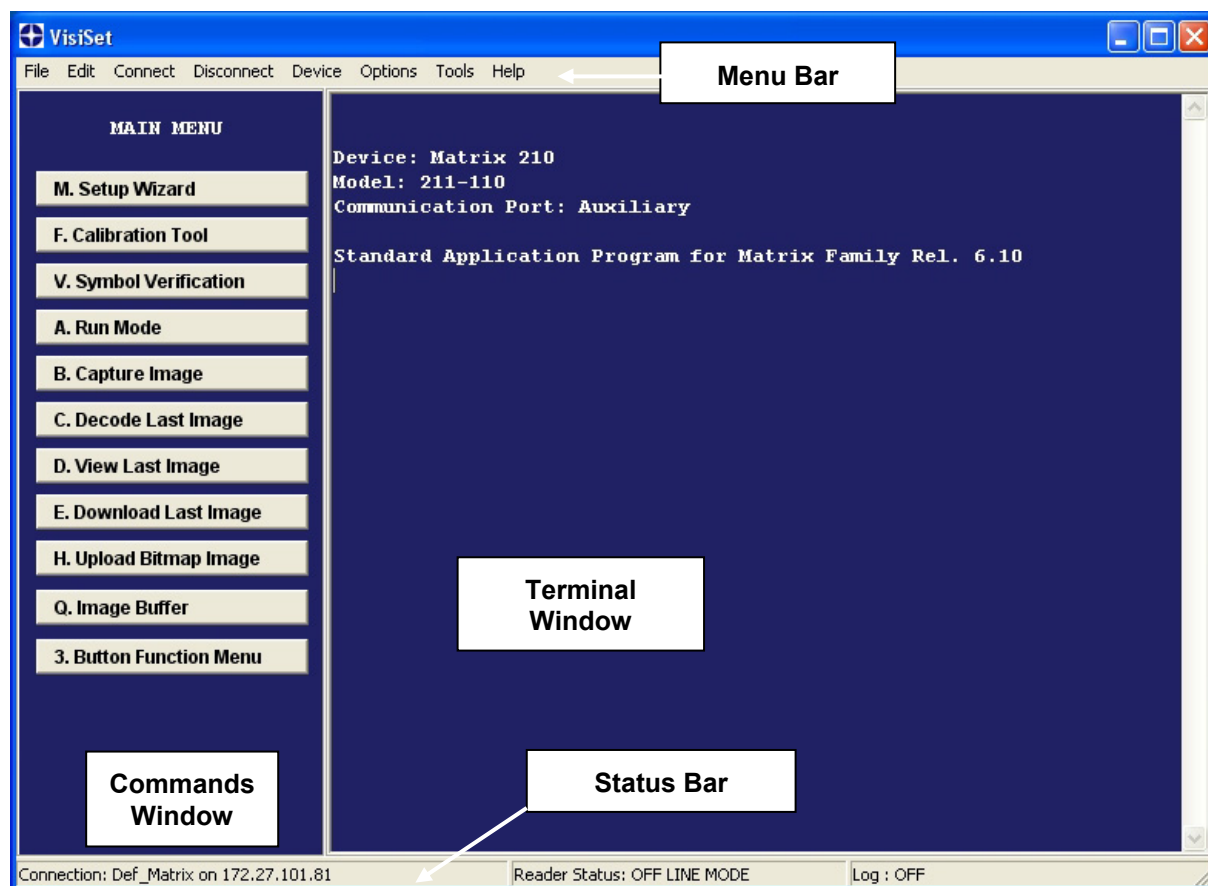

Figure 107 - Main Window
Upon connection, Matrix 210™ exits Run Mode and displays the Main Menu on VisiSet™ with all the commands necessary to monitor your reader's performance. You can select these commands using the mouse or by pressing the key corresponding to the letter shown on the button. See Figure 107.
The **Options** item from the VisiSet™ menu (see Figure 107) presents a window allowing you to configure:
6. Close the Parameter Setup window and press **Disconnect** on the VisiSet™ menu bar (see Figure 107) or launch **Run** Mode from the VisiSet™ Main menu.